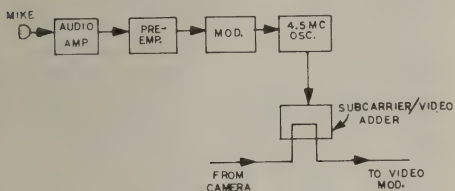

Fig. 5 Block Diagram of Audio Subcarrier Unit.
erator needs to have four things: (1) a 4.5 mc oscillator (2) an audio preamp (3) a frequency modulator, and (4) a video sub-carrier adder. Refer to fig. 5 shown below for a block diagram of such a unit.